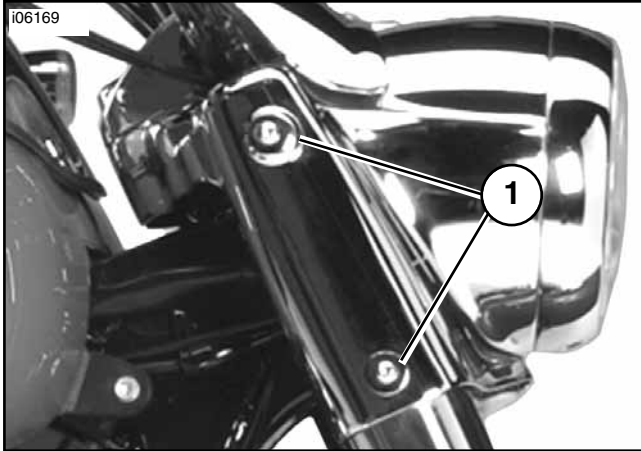

Figure 2. Typical Mounting Screw Locations (FLHRS Shown)
2. See Figure 2. On FLHRS models. Remove and discard original mounting screws (1). Repeat for other side. Remove handlebar mounted turn signals, acorn nuts, internal tooth washers, signals, mounting blocks from handlebars and install OEM acorn nuts and internal tooth washers to retain mirrors.